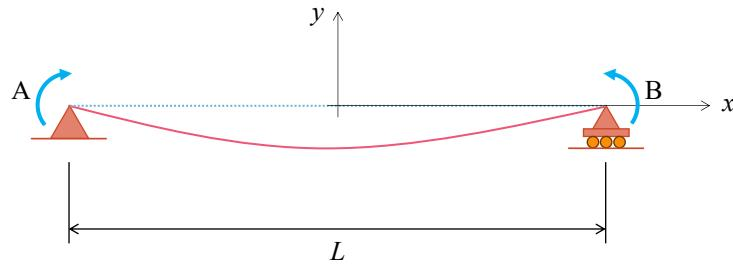

Figure 3. Pure bending scenario of a *uniform beam*. Positive bending moment effect is shown.
- e. From Figure 3, the beam does not displace at either end. We also note the displaced shape is *symmetric*. Use these constraints to solve for  $C_1$  and  $C_2$ . Then, proceed to determine an exact expression for the maximum vertical deflection,  $\Delta_{\max}$ , this beam experiences. When determining  $C_2$ , recall we are applying a *positive* bending moment to the beam. Express all of your final answers in terms of the variables  $\phi_0$  and  $L$ .